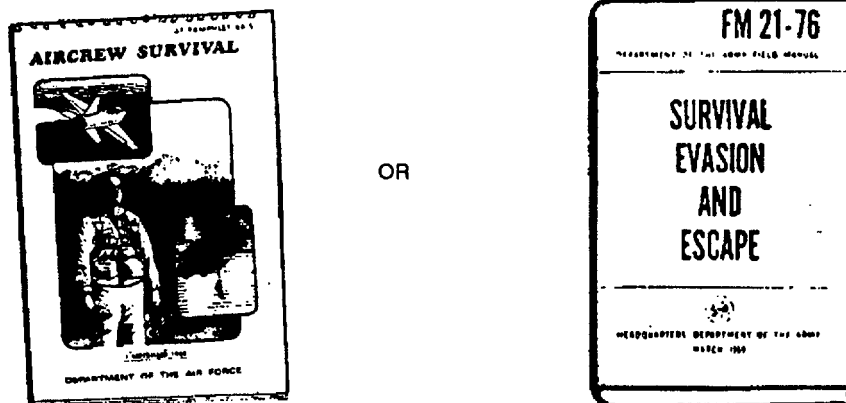

Figure 2-17. Survival Manuals
- (3) Loosen the leg bracket screw. Turn the leg bracket end-for-end, thread the freshwater hose back through it, and retighten the screw (View C).
- (4) Wrap the strap around your leg (refer to View D for this and remaining steps).
- (5) Remove and save caps from hoses.
- (6) Drop the intake hose (with weighted filter) and brine return hose into your water source. To keep air out of the hoses, be sure the filter is completely submerged.
- (7) Hold the separate (smaller) product hose in one hand, away from your mouth, and begin pumping. Pump in a relaxed and steady manner, lifting the handle all the way up and pushing it all the way down. A rate of about 40 strokes per minute is best.
- (8) The first water produced will contain biocide or salt. This is normal: just discard this initial supply of water. Two to three minutes of pumping should clear any saltiness or biocide.
- (9) When the water is cleared, place the freshwater hose directly into your mouth or a suitable container and continue pumping.
- j. Survival Manual. FM 21-76 and AFM 64-5 (See Figure 2-17) are the two survival manuals authorized for use with Army survival kits. These manuals provide survival instructions under all climatic and environmental conditions. Refer to the manual for detailed survival methods and practices.